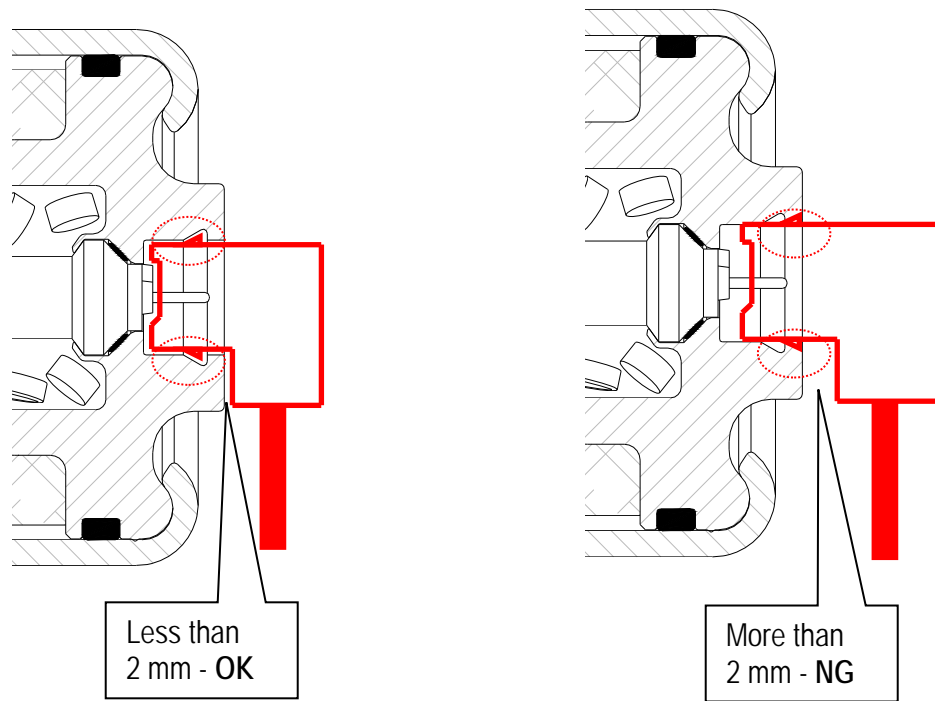

Figure 38
- Make sure harness connector is fully engaged / seated (see Figure 38).